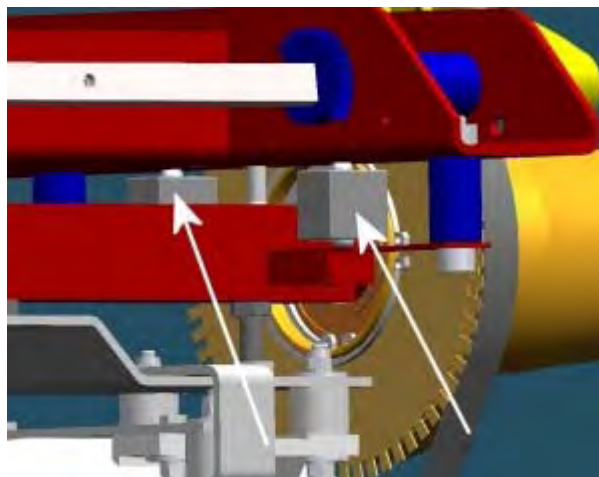

Fig. 4
4. Push down the shaft and remove the 2 piezos (**Fig. 4**)